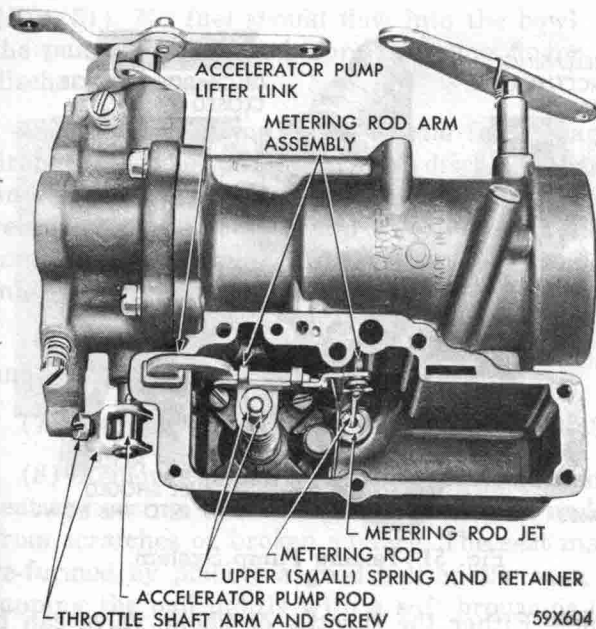
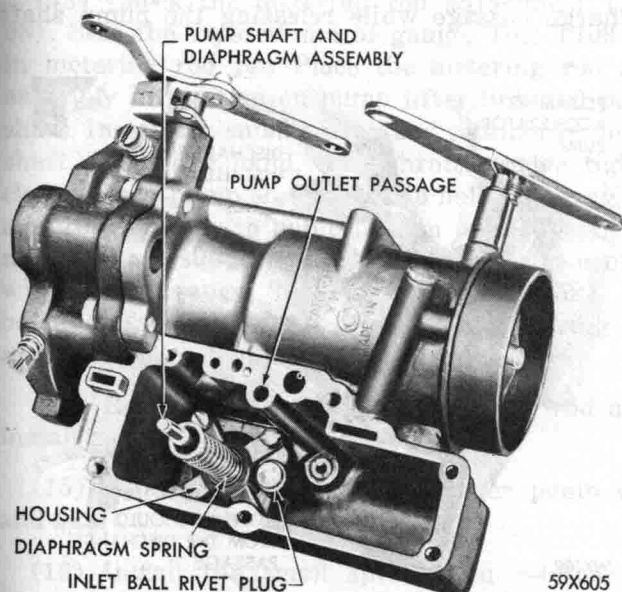
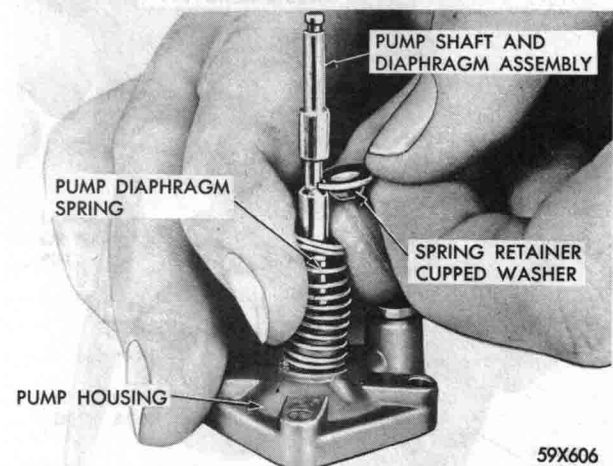
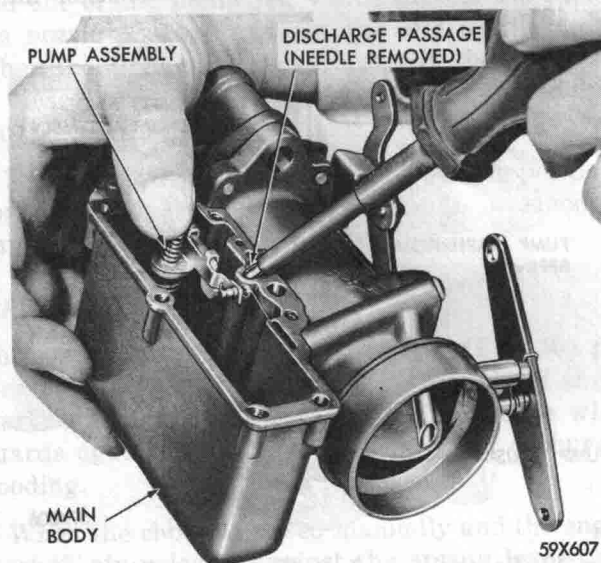

Fig. 47—Removing or Installing Throttle Arm from Shaft and Pump Link
Fig. 48—Removing or Installing Pump Shaft Outlet Needle also Pump Fuel Bowl
Fig. 49—Removing or Installing Pump Diaphragm Spring Assembly
Fig. 50—Filling Pump Circuit with Fuel
- (1) Remove and disassemble flame arrestor.
- (2) Remove idle mixture screw from throttle body.
- (3) Loosen throttle arm attaching screw and remove arm from shaft and pump link (Fig. 47).
- (4) Remove throttle body attaching screws and remove throttle body.
(5) Remove bowl strainer nut, gasket and gauge assembly.
(6) Remove bowl cover screws and metal identification tag.
(7) Lift cover off bowl, invert cover and remove float retainer pin and float. Hold hand under the cover to catch needle, spring and pin as cover is turned upright.
(8) Remove needle seat with screwdriver.
(9) Remove retainer and small spring from pump shaft (Fig. 47).
(10) Lift metering rod arm up to remove metering rod. Separate rod by removing hairpin clip, unhooking lever end of spring from metering rod and rotating the rod to a position that will permit the upper end of the spring to pass through the opening in the loop of the metering rod. The spring is part of the arm assembly and should remain in the arm assembly.
(11) Remove pump lifter link and connector link.
(12) Remove cover gasket.
(13) To remove the pump outlet needle, hold hand under bowl as carburetor is inverted. Catch needle as it falls from outlet passage (Fig. 48).
(14) Remove the bowl baffle plate.
(15) Remove the metering jet.
(16) Remove the pump housing screws and lift pump assembly from fuel bowl.
(17) To disassemble the pump, place thumb on diaphragm, grasping the spring with fingers and compressing spring sufficiently to free cupped washer. Remove the retainer with the other hand (Fig. 49).
(1) Install the throttle body on throat-and-bowl body.
(2) Place the pump housing and large spring on pump shaft. Compress spring sufficiently to install spring retainer (Fig. 49).
(3) Align the pump housing and diaphragm and insert screws through housing and diaphragm.
(4) Test the pump inlet ball for leakage by holding pump down with one hand, filling pump circuit with fuel (Fig. 50), then holding a finger over the discharge passage while releasing the pump shaft